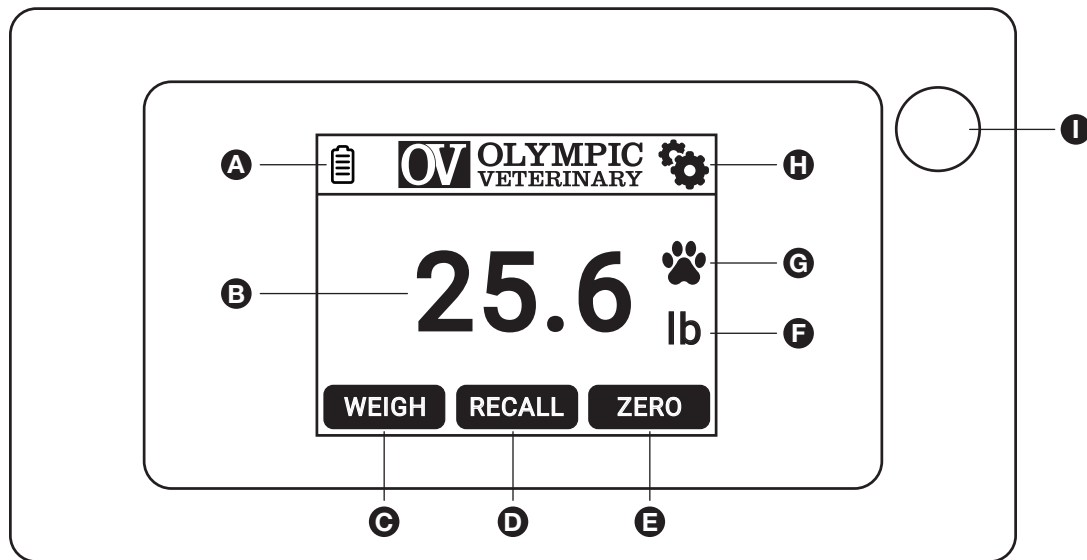

Figure 1
1. From the Home Screen (Figure 1), press the Settings Icon . A keyboard will appear.